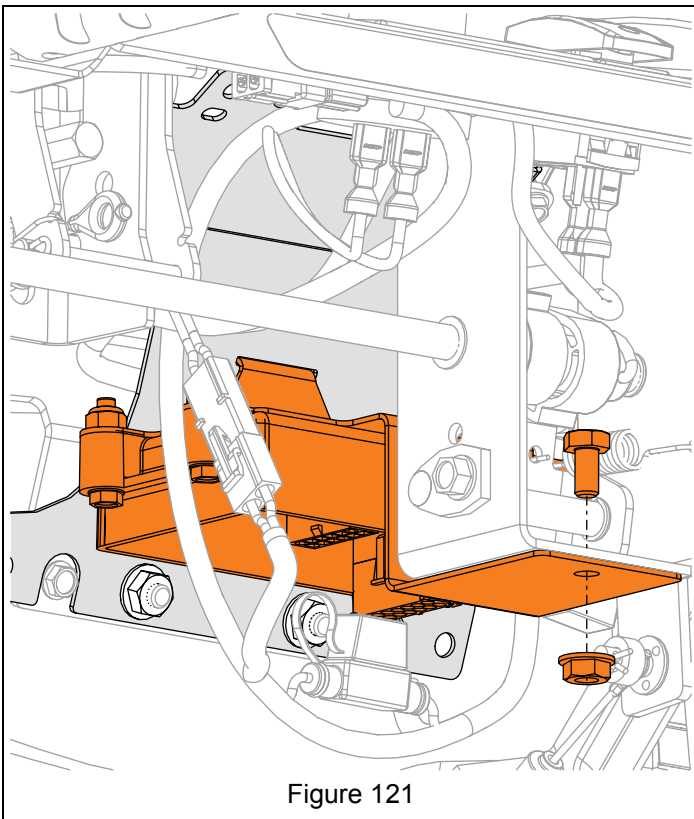

Figure 121
4. Reinstall ECU and secure to dash panel with original hardware. See Figure 121.
2. Secure ECU bracket to dash panel with original hardware. See Figure 121.